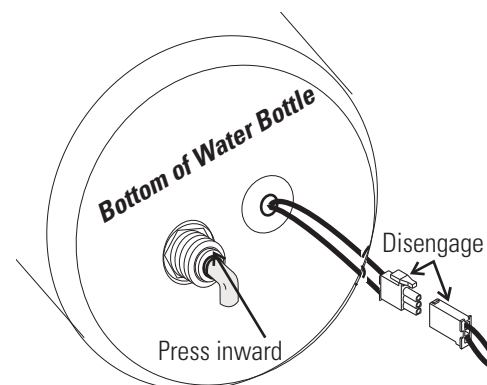

Figure 7-3. Drain Water Bottle
7. Attached to the bottom of the water bottle is a length of tubing and low voltage wiring (Figure 7-3). Disconnect the tubing by pressing inward on the collar where the tubing connects to the bottle. Pull the tubing free. Disengage the wiring at the connector.